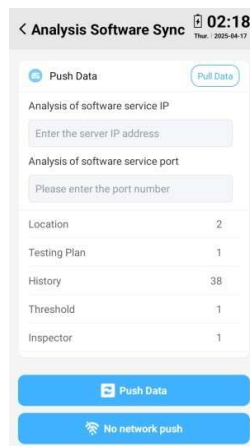

Figure 2 Waiting for a connection
- (1) Click on the "Analysis Software Synchronization" icon to enter the analysis software synchronization interface, as shown in Figure 2. Fill in the software service IP and service port number displayed in the data synchronization interface of the computer analysis software into the corresponding box of the instrument analysis software synchronization interface;
- (2) On the data synchronization interface of the computer analysis software, click "Start Reception";
- (3) Click the "Push Data" button on the instrument side;
- (4) After synchronization is completed, the synchronized data can be viewed on the computer analysis software.